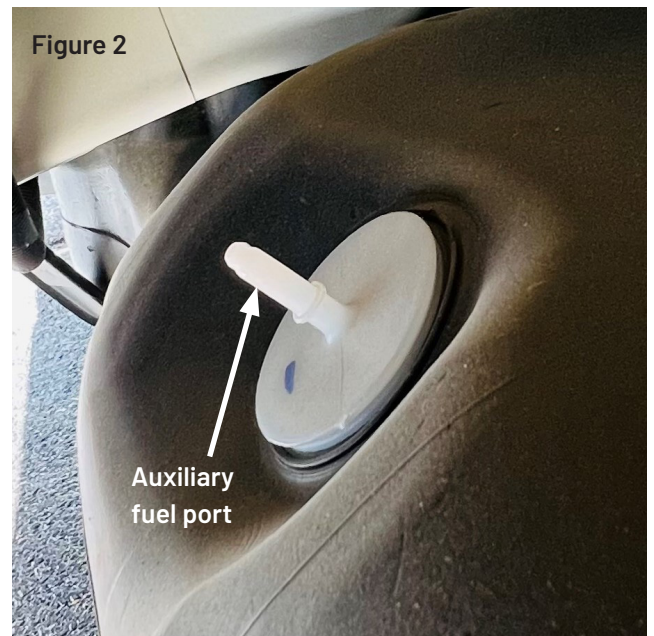

Figure 3
2. Cut the tip off the fuel port (see figure 3) and deburr. This will open the fuel port accordingly.
4. Insert the fuel line into the open auxiliary fuel port. Ensure that the fuel line is straight when fitting, or that any curvature is angled downwards, towards the bottom of the tank. Push the in-line connector fully onto the fuel port until it engages (clicks) with the shoulder near the base of the port (shown in figure 3). When fitted correctly, the in-line connector can only be released by pressing and holding the green button at the base of the connector (see figure 4).